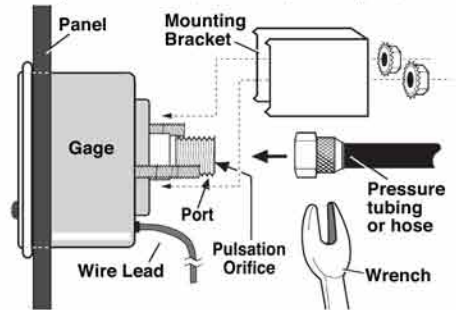

Figure 2
All models can be installed in a panel from 0.032 to 0.250 in. (1 to 6 mm) thick. Remove the mounting bracket and insert the gage from the front side of the panel. Replace bracket and secure it. Do **NOT** overtighten. (See Figure 2).
1. Pressure tubing is generally not provided. Use of good quality flexible pressure tubing/hose and fittings is strongly suggested. Use at least 3/16 in. (5 mm) I.D. tubing. If using copper or rigid tubing, install at least 12 in. (305 mm) flexible hose from the gage to the rigid tubing. This prevents damaging vibration from reaching the gage. For most models a pulsation orifice, within the pressure port, is provided and it is removable for cleaning (Figure 2).